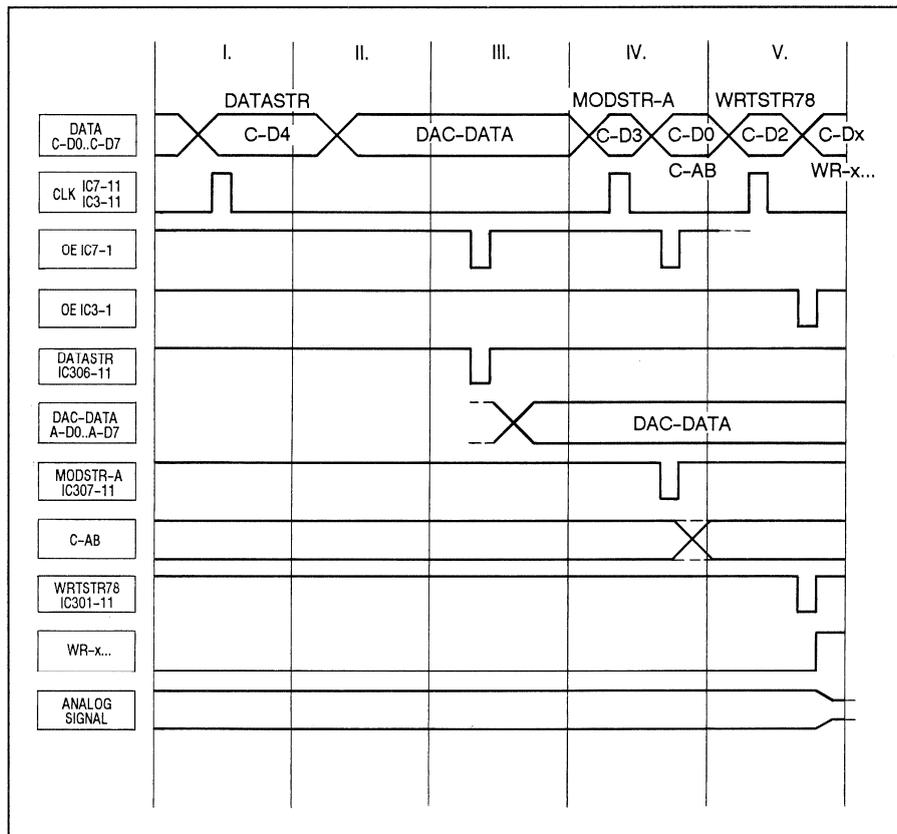

Fig. 3
2. Loading the digital-analog converter (DAC) refer to Fig. 3